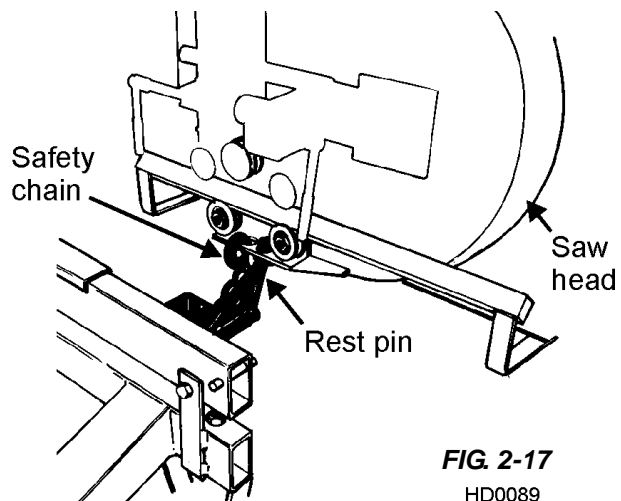

FIG. 2-17
5. Lower the saw head until it is seated firmly on the rest pin. Continue lowering the head 3/4" (19mm). Hook the safety chain to the saw head. **See Figure 2-17.**